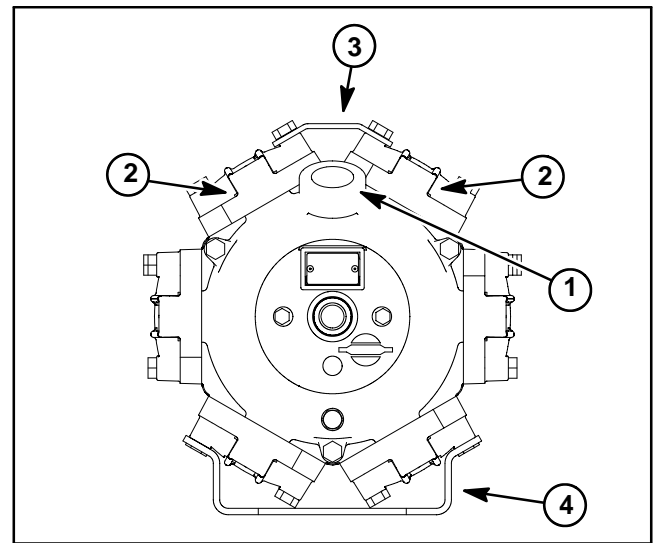

Figure 6
4. Remove hex bolts that retain valve covers (item 4) to pump. Separate and remove valve covers from pump.
NOTE: The two (2) pump inlet valves in the upper pump positions (either side of pump suction port) are different than the rest of the valves used in the pump (Fig. 6). These two (2) valves are white.
A. Place diaphragm back disc (item 8), new diaphragm (item 7) and diaphragm disc (item 6) on connecting rod. Make sure that the diaphragm disc lip faces away from the diaphragm.
B. Thread hex bolt (item 5) into connecting rod.
IMPORTANT: The two (2) pump inlet valves in the upper pump positions (either side of pump suction port) are different than the rest of the valves used in the pump (Fig. 6). These two (2) valves are white.